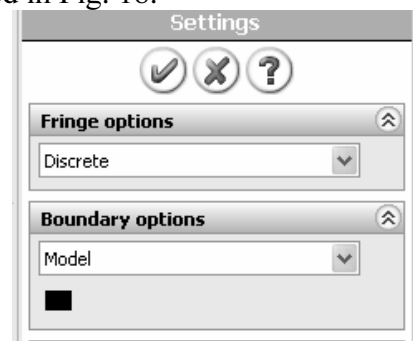

Figure 18 – Selections in the **Settings** property manager.
- Right-click **Stress1 (-vonMises-)** and from the pull-down menu select **Settings....** The **Settings** property manager opens as illustrated in Fig. 18.